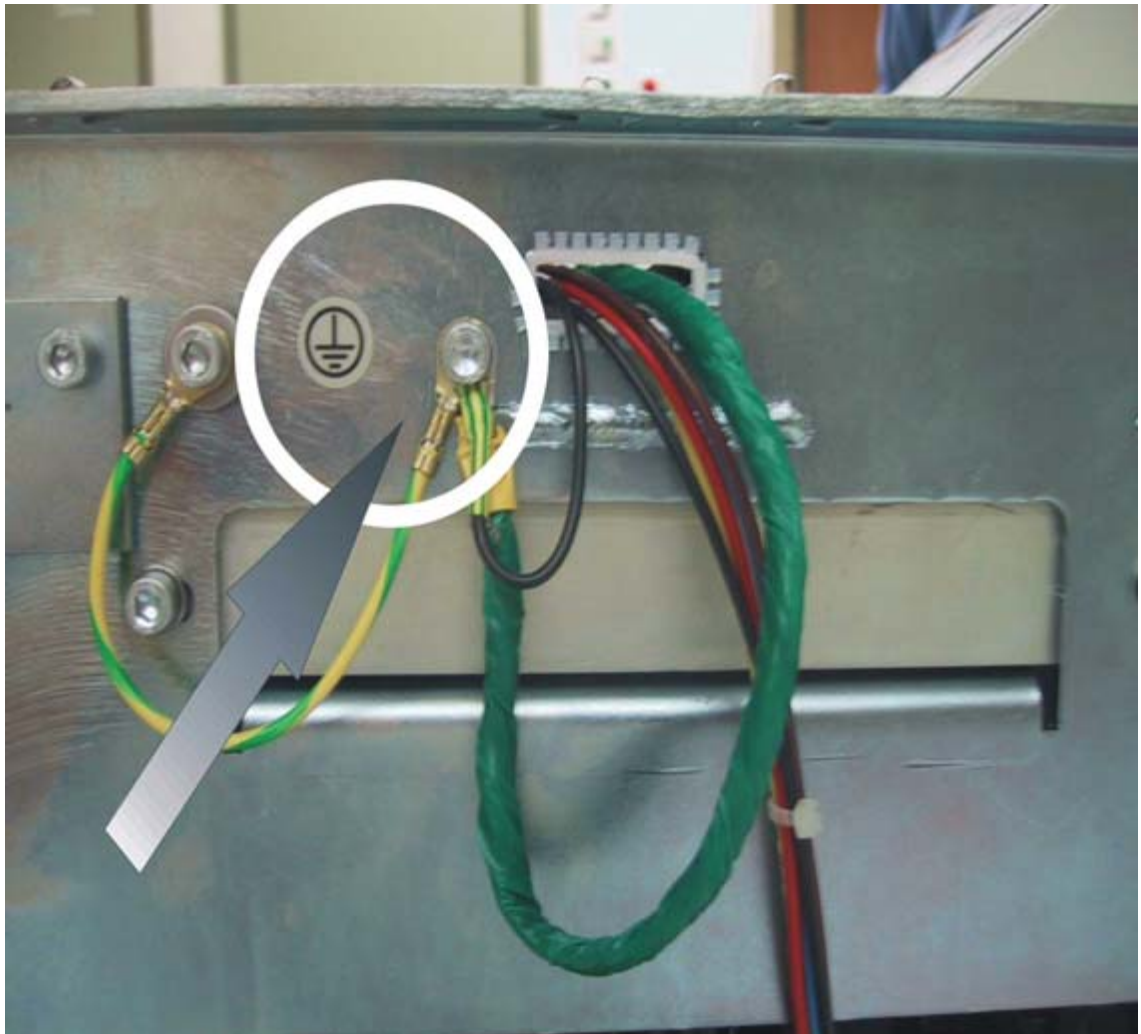

Fig. 7: Remote ground
- Attach the ground cable to the existing connection at the chassis (Fig. 7 / p. 11).